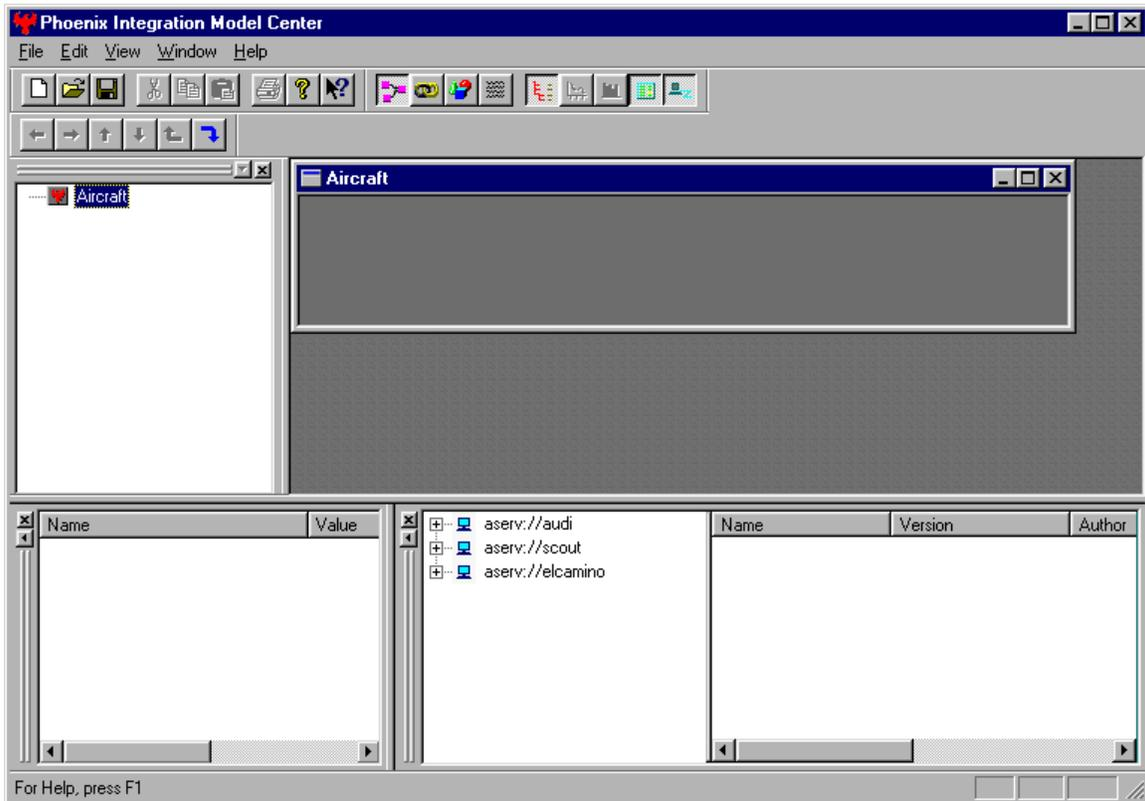

Figure 26. ModelCenter's Configuration window showing the new name entered.
4. In the Configuration Tree, long click on **Configuration 1**; this will allow you to rename the configuration. Change the name to **Aircraft**. This is shown in Fig. 26.